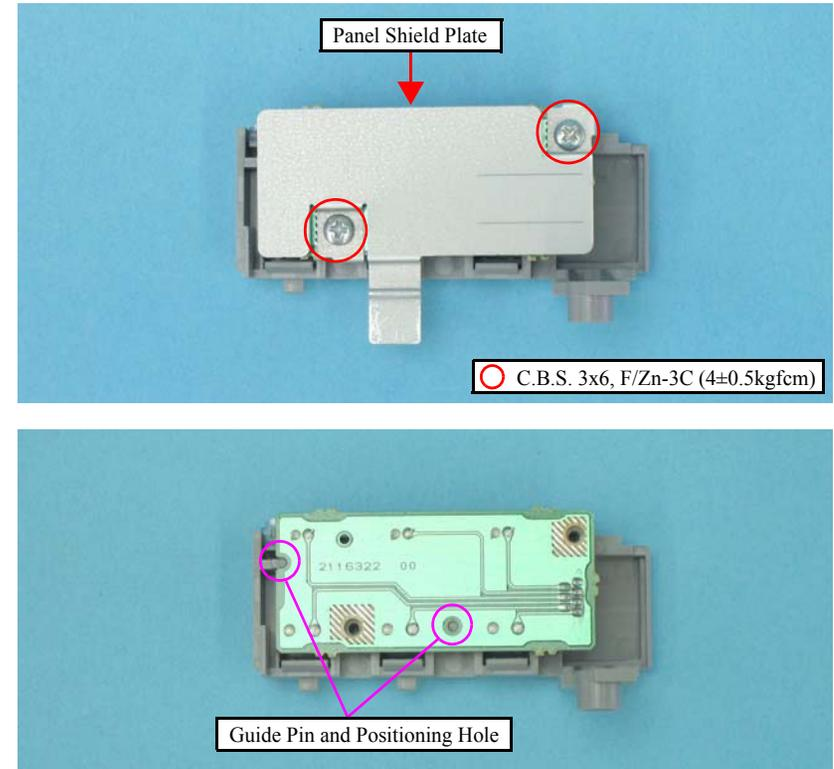

Figure 4-19. Removing Panel Board
- Insert the guide pins (x2) of the Panel Housing into the positioning holes (x2) of the Main Board as shown in Figure 4-19.